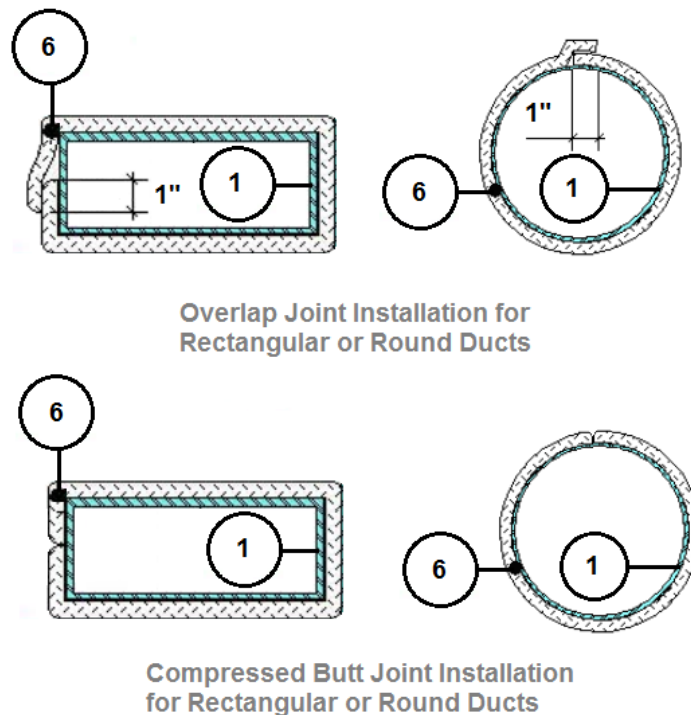

Figure 1. 3M™ Fire Barrier™ Dryer Ventilation Wrap
1. DUCT: Reference Figure 1. Use SMACNA compliant ventilation duct for vertical installation and meeting the following requirements: